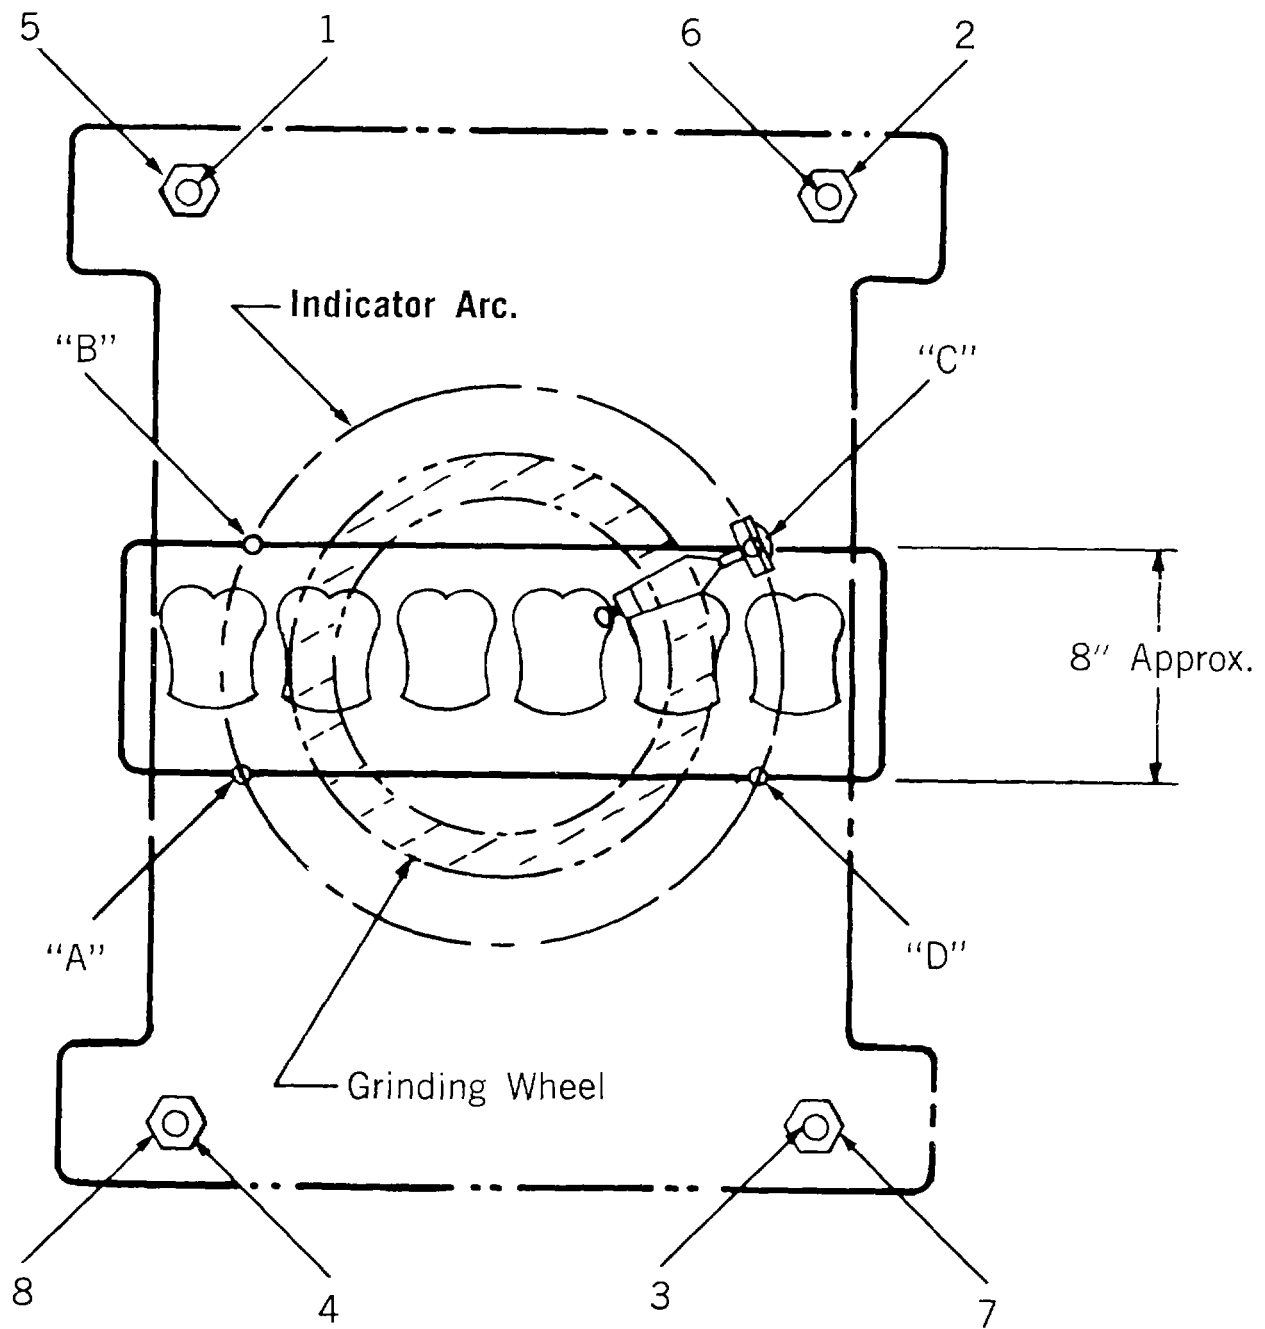

Figure 8.
- G. (1) Zero ("0") indicator at left front side of head (Point A). (See Figure 8.)
(2) Rotate wheel approximately 90 until indicator is at left rear of head (Point B). Indicator should read "0." If indicator has advanced (plus reading) the left rear corner of wheel carrier casting must be raised. Turn adjusting screw #1 clock-wise. Lock after adjusting by tightening lock nut #5. Recheck for "0" reading.